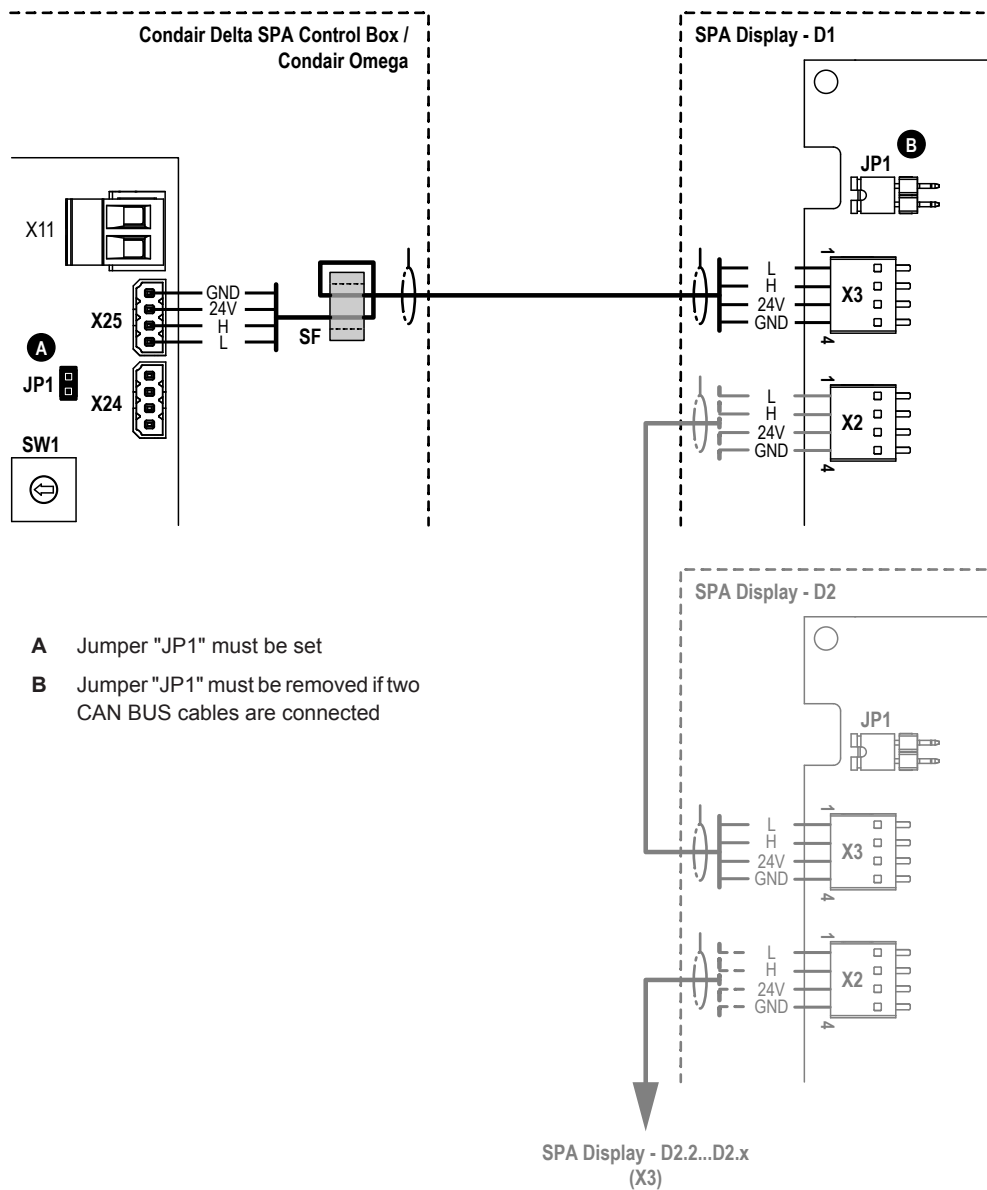
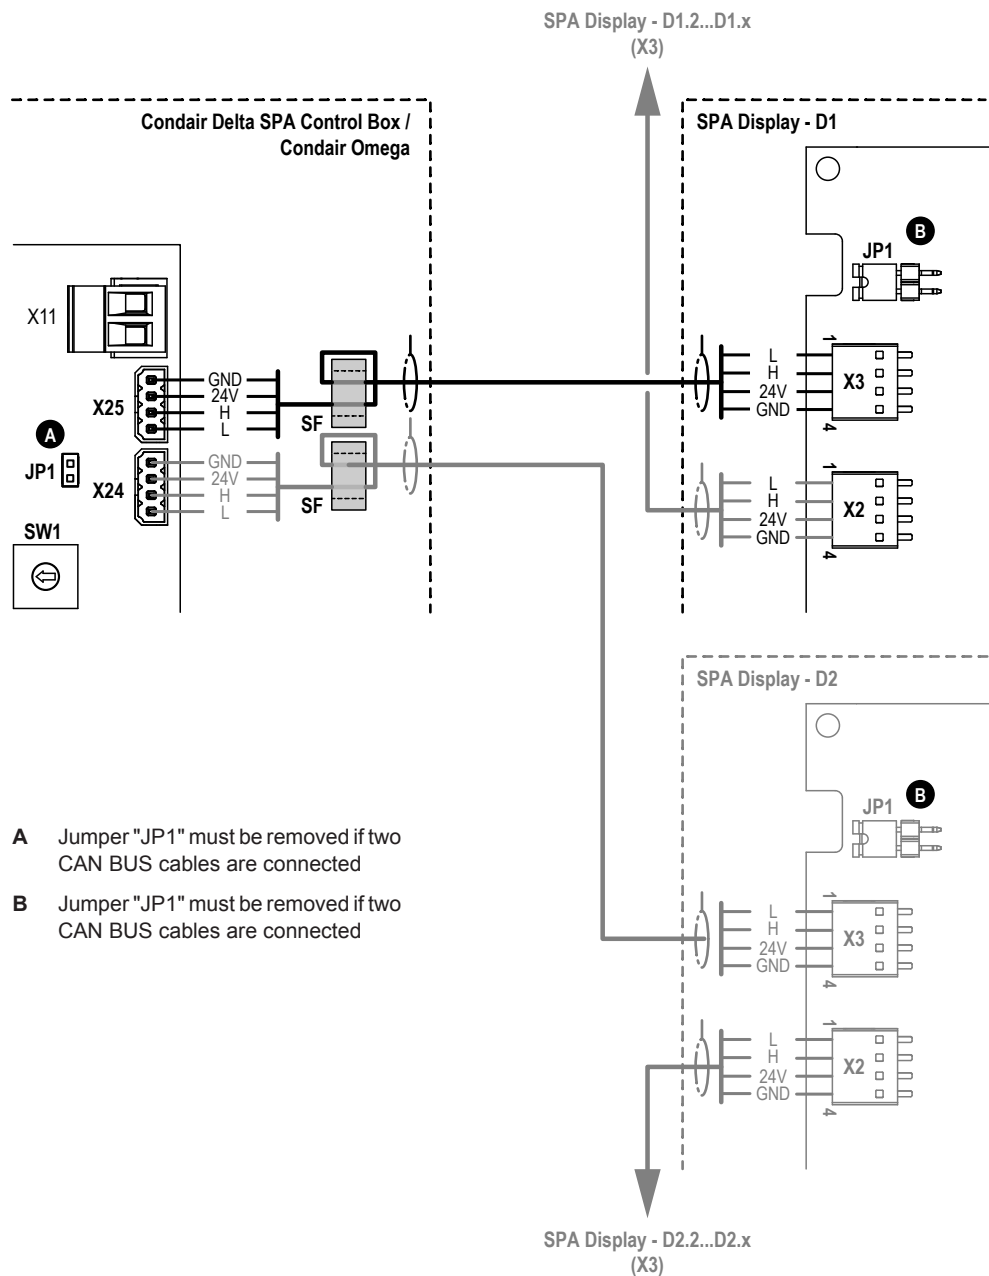

Fig. 22: Wiring diagram variant 1 with one or more Condair SPA Displays
Fig. 23: Wiring diagram variant 2 with one or more Condair SPA Displays
5. Connect the CAN BUS cable(s) according to the appropriate wiring diagram (see Fig. 22 or Fig. 23) to socket "X25" and/or "X24" on the control board of the Condair Omega or the Condair Delta SPA Control Box. Also observe the instructions in the installation manual for the Condair Omega or the Condair Delta SPA Control Box.